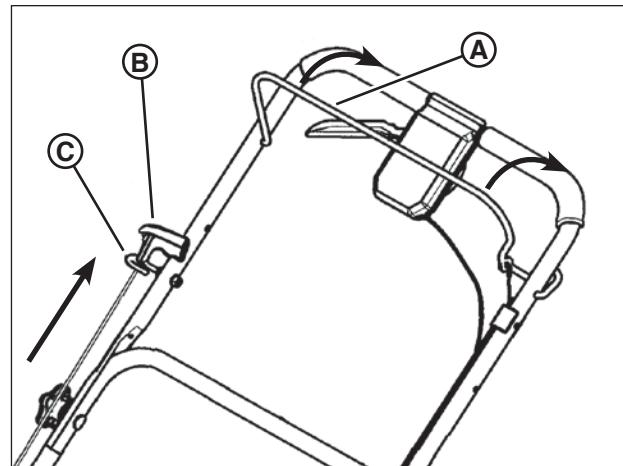

Figure 2: Starter rope handle
1. Squeeze the blade control (**A**, Figure 2) against the handle.